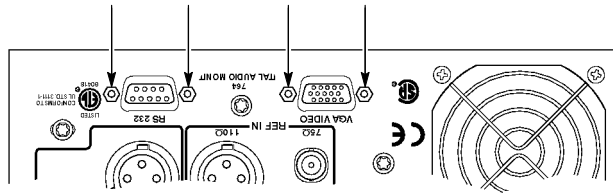

Figure 5–20: The stud/spacers that retain the d-connector assembly
2. With a 3/16 inch socket or nut driver, remove the threaded stud/spacers from either side of the RS-232 and VGA D-connectors (see Figure 5–20), and remove the **D-Connector Board** from the rear panel.